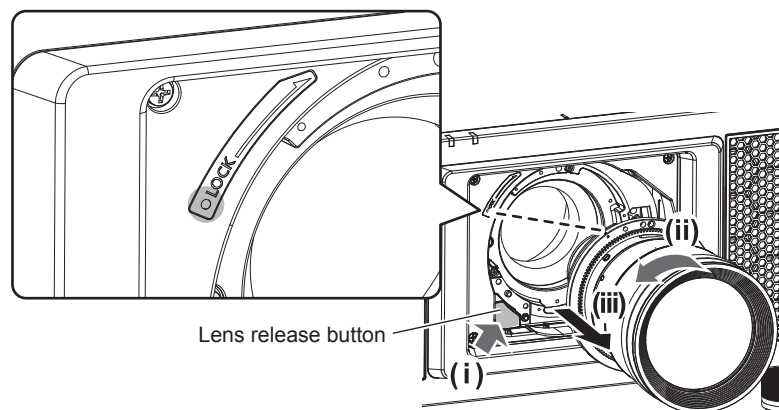

Fig. 1
**2) Remove the projection lens by turning it counterclockwise while pressing the lens release button. (Fig. 1)**